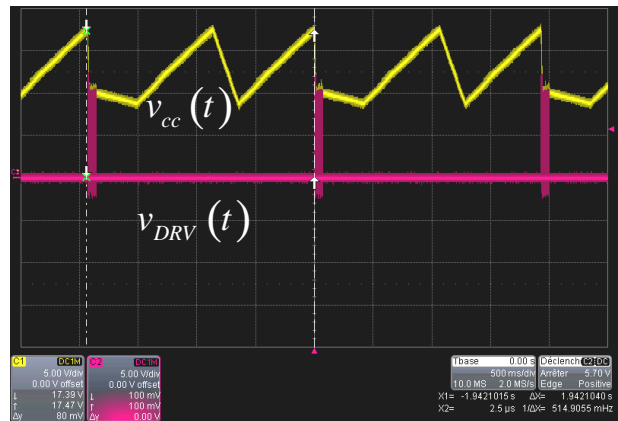

Figure 5. In this Case, the Timer Interrupts the Switching Pulses after 100 ms and the Part Enters Auto-recovery
- when a short-circuit is applied at the end of the cable, there are chances that the auxiliary voltage does not collapse, keeping the controller alive despite an over current on the secondary side. The timer can therefore count up to 70 ms (typical) and make the part enter auto-recovery as before however with a longer recurrence. This is what Figure 5 shows. Again, a low duty ratio in burst mode guarantees a low average input power ($0.07/1.94 = 3.6\%$).